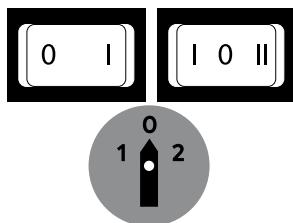

Fig. 1
- Any type of operation, whether cleaning, checking the product to be worked, adjustment, setting up, etc. must always be carried out when the machine is turned off, that is with the switch in position **0** (see Fig. 1) and the plug removed from the electric socket, in order to avoid accidental starting. The machine should be started only when in use.
- Check that the switch on the motorised body is in the position **0** (Fig. 1), then plug in the machine.
- Load the product to be worked into the hopper and press it down using only the presser (L). Never use the hands.
5. For models with a motorised body with a switch, the tomato crushing attachment must be operated only by turning the switch to position 1 (Fig. 1)